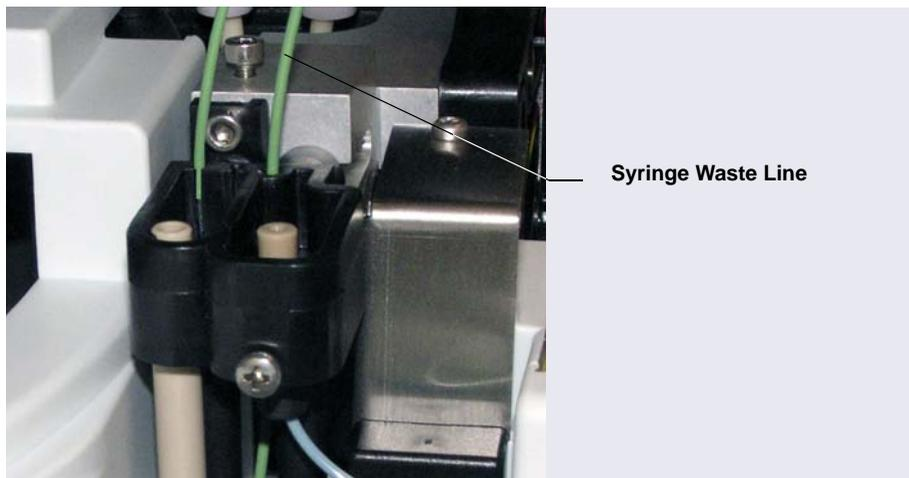
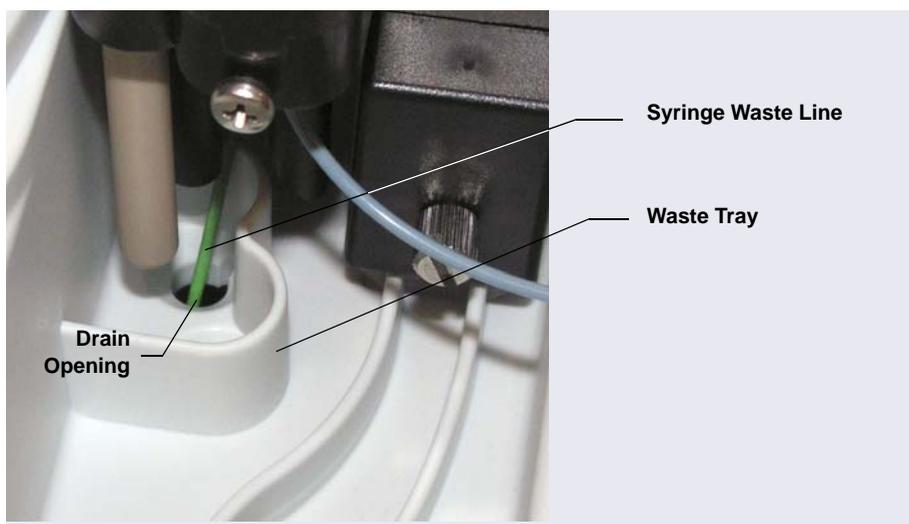

Figure 5-33. Syringe Waste Line in Wash Port
Figure 5-34. Syringe Waste Line in Waste Tray
10. Insert the waste line into the right-most opening in the wash port (see Figure 5-33) and then down into the drain opening in the waste tray (see Figure 5-34).